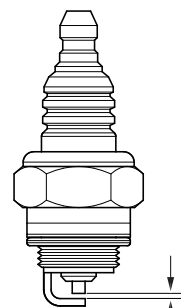

Figure 29. Spark Plug Gap
1. Remove and clean spark plug (Figure 29) with a wire brush if it is to be reused. Discard spark plug if the insulator is cracked or chipped.